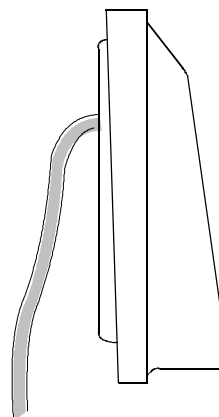

Fig. 4 Installation
- Ensure that the cable inlet holes on the sensor housing are sealed properly and that the cable runs from the bottom to the top into the cable entry as shown in Fig. 4 below to prevent that rain water enters the sensor housing.